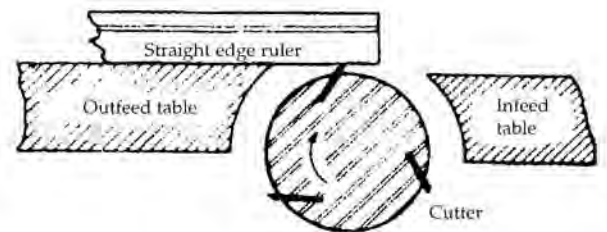

FIGURE 24
4. Place a steel straight edge on the outfeed table, extending over the cutterhead as shown in Fig. 24.